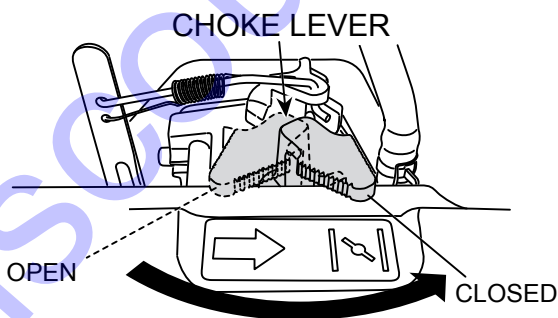

Figure 12. Choke Lever (Closed)
3. Place the choke lever (Figure 12) in the "CLOSED" position if starting a cold engine. If starting a warm engine or the temperature is warm, place the choke lever in the "OPEN" position.